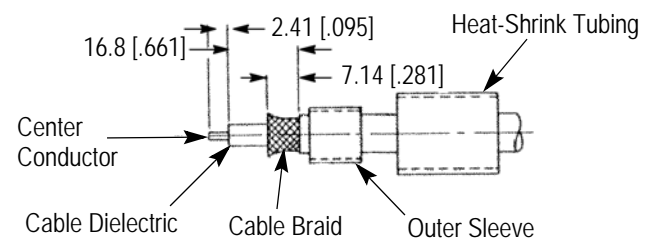

Figure 3
2.1. Preparing the Cable (Figure 3)